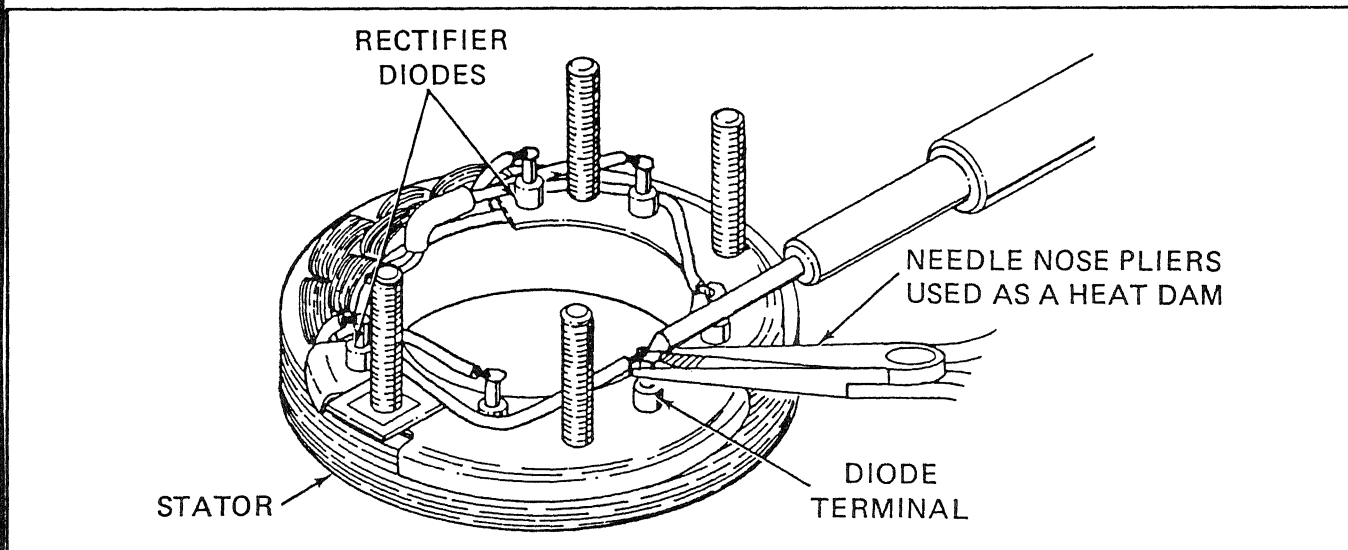

Figure 5-28.11. Unsoldering Rectifier Diode
Figure 5-28.11 shows a heat dam in place between the tip of the diode and diode body, in order to protect the diode from damage in removing and replacing the stator leads.
- (3) Stator. Discoloration of enamel on windings is evidence of overheating and may cause shorted condition. Test for shorted condition as follows:
- (a) Unsolder diode connecting leads from stator junctions, as shown in figure 5-28.11, to protect diodes from heat damage. Avoid bending or twisting diode terminal.